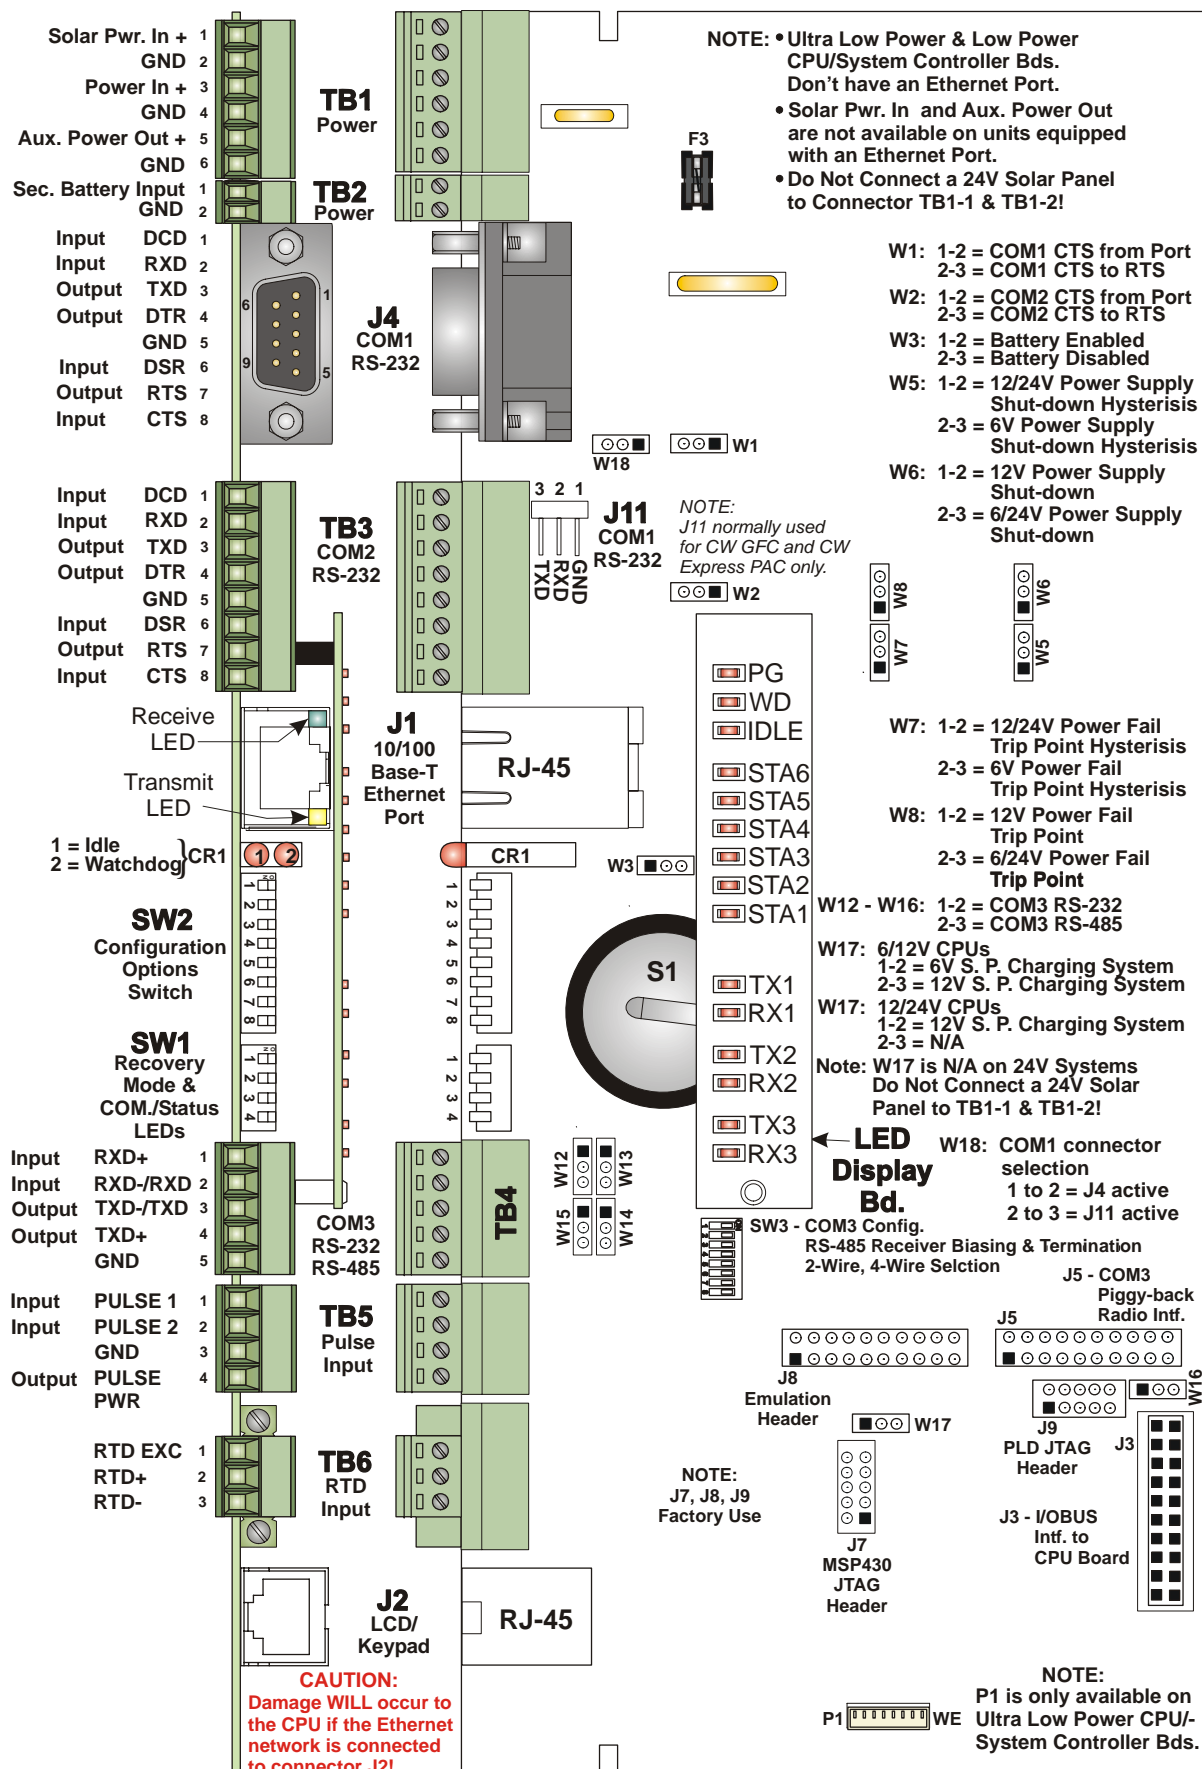
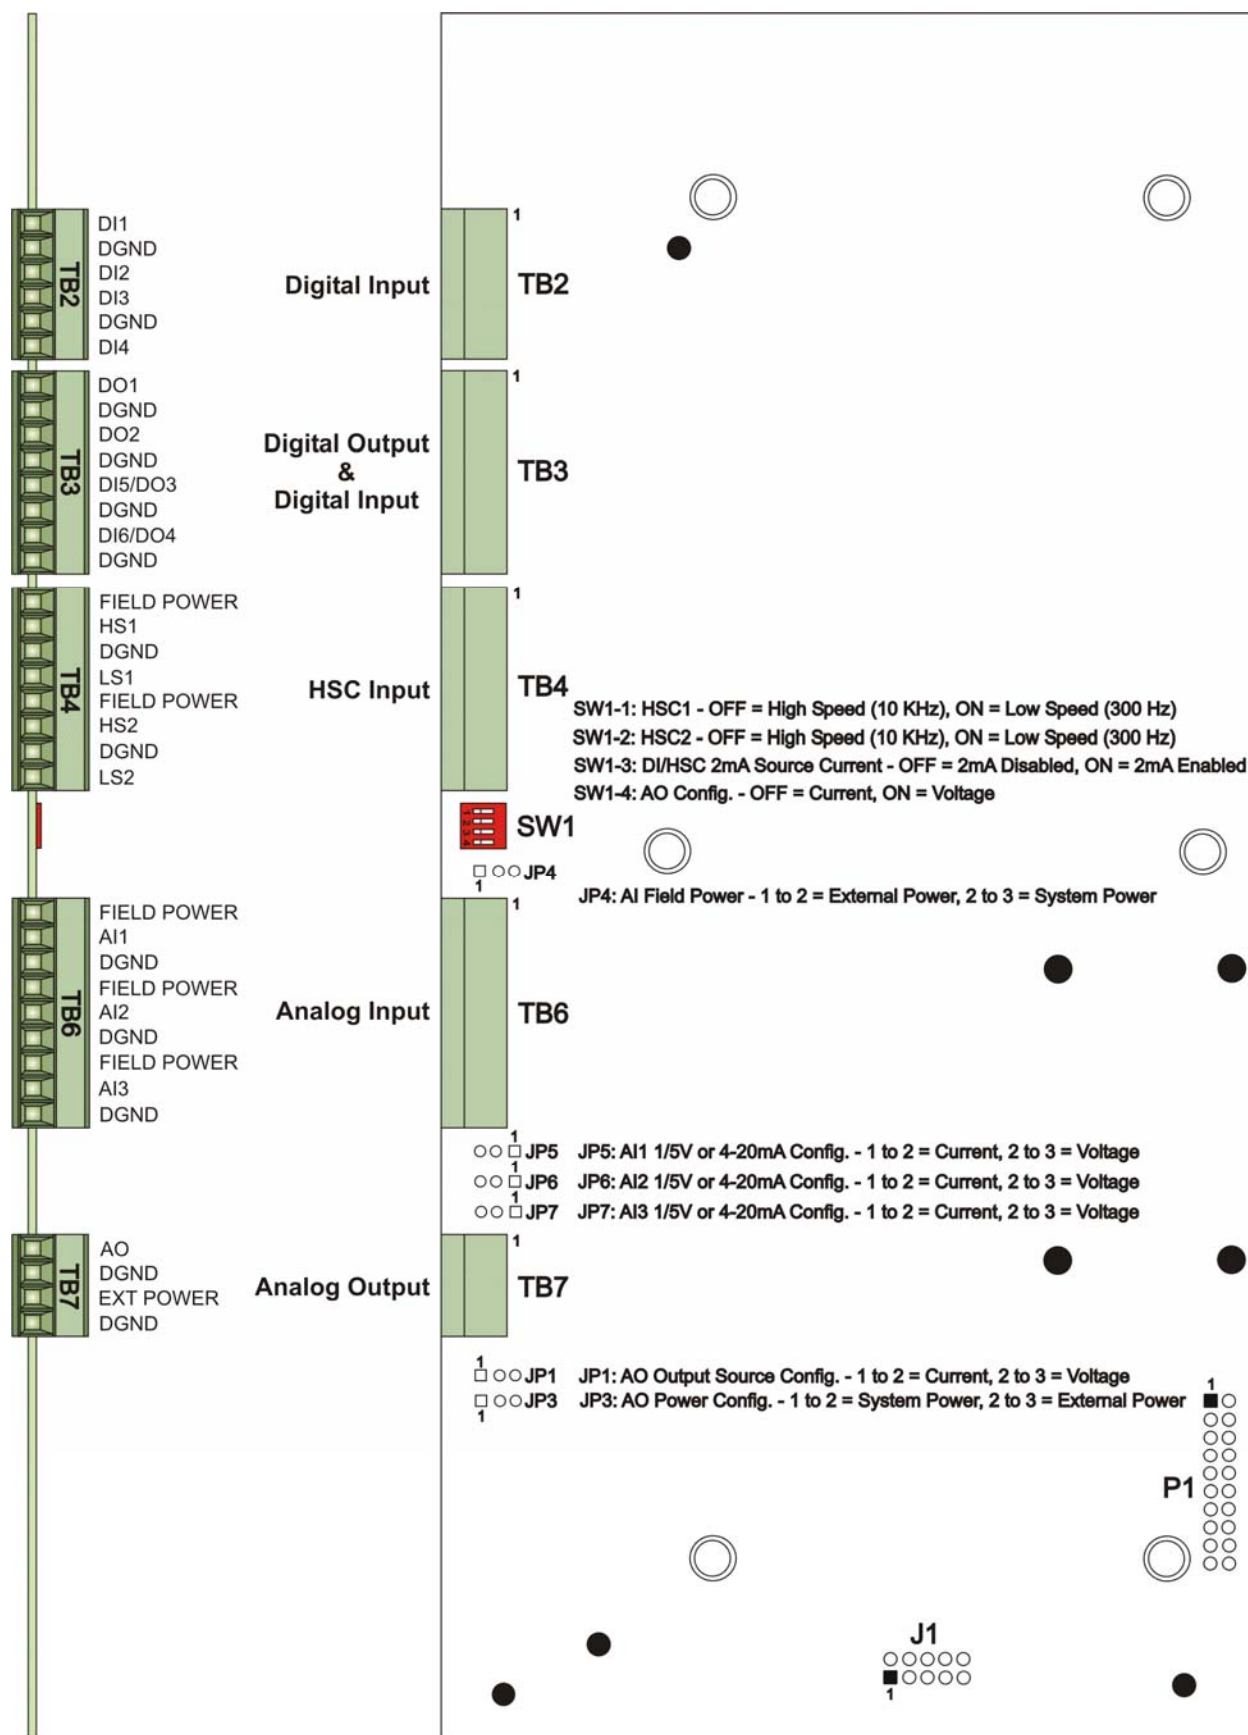

Figure C-2 - CPU/System Controller Bd. Component I.D.
Figure C-3 – Process I/O Board Component Identification Diagram
3. Make sure that the Lithium Backup Battery has been enabled, i.e., Backup Battery Jumper W3 on the CPU/System Controller Assembly should be installed on jumper posts 1-2). Configure the CPU/System Controller Board DIP-Switches and Jumpers. Tables C-1 through C-3 provides overviews of the switch settings (see Figure C-2). Configure the Process I/O Board's DIP-Switches and Jumpers (see Figure C-3). After configuring the Jumpers and DIP-Switches, install the Process I/O Board and the CPU/System Controller Board (as one assembly) into the enclosure.